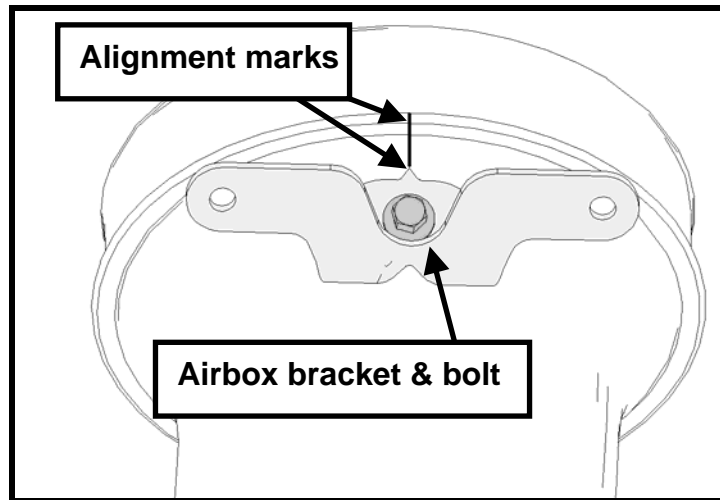

Fig. 5
**STEP 2:** Install the clean air tube support bracket (R07060104) to the clean air tube and position using the alignment marks on both the bracket and the tube. Secure the bracket to the tube using bolt (N605771) supplied in kit (See Fig. 5). **NOTE:** Apply medium-strength thread locking compound to the bolt threads prior to installation and torque to 10 Nm (88 lb in).